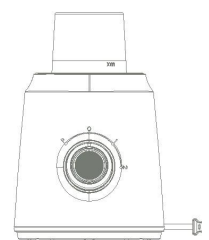

Fig.4
3. Place the grinder attachment on the motor unit, Turn the bowl clockwise until a click will be heard when locked into position properly. Please see Fig. 4